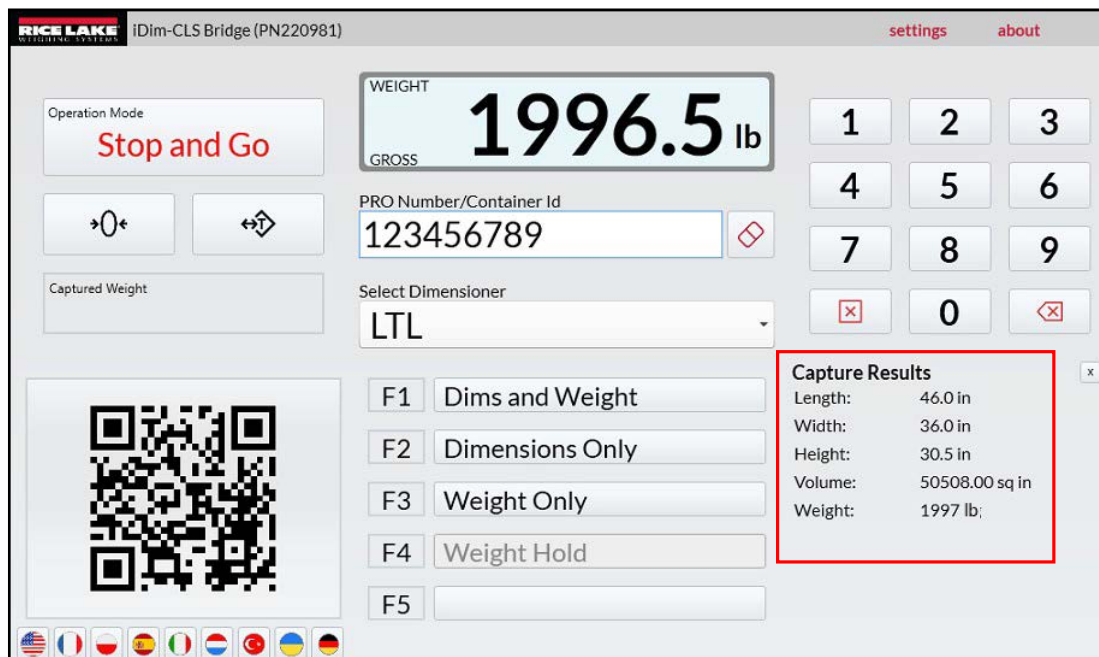

Figure 5-4. Weight Results as Numerical Data
- **As Text:** Shows weight results as numerical data.(see Section Figure 5-4. on page 16)